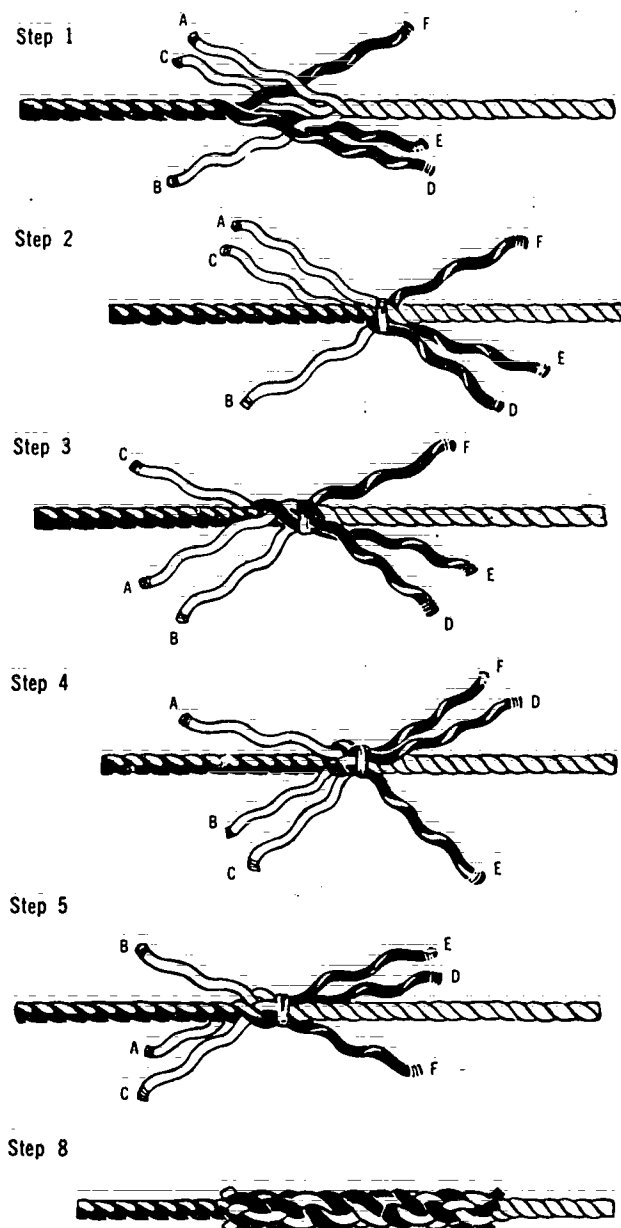

Figure 7-32. Making a Short Splice
- Step 1. Unlay the strands at end of each rope for six or eight turns. Whip the ends of the strands to prevent their untwisting, and bring together so that each strand of one rope alternates with a strand of the other (Figure 7-32, Step 1).
- Step 2. Bring the ends tightly together and apply a temporary seizing where they join (Figure 7-32, Step 2).
- Step 3. Take any one strand and begin tucking, the sequence being over one and under one. Figure 7-32, Step 3, shows how Strand A is passed over the strand nearest to it, which is Strand D, and then under the next strand, Strand E.
- Step 4. Rotate the splice away from you one-third of a turn and make the second tuck; Strand B is passed over Strand E and then under Strand F (Figure 7-32, Step 4).
- Step 5. Before making the third tuck, rotate the splice again one-third of a turn away from you. Strand C is then passed over Strand F, and under the next one, Strand D. The splice now appears as in Figure 7-32, Step 5.
- Step 8. When tucking is finished, remove the centre seizing and cut off the ends of all strands, leaving at least 3/4" on each end. To give a smooth appearance, roll the splice back and forth, either under your foot or between two boards. The completed Short Splice should look something like the illustration in Figure 7-32, Step 8.